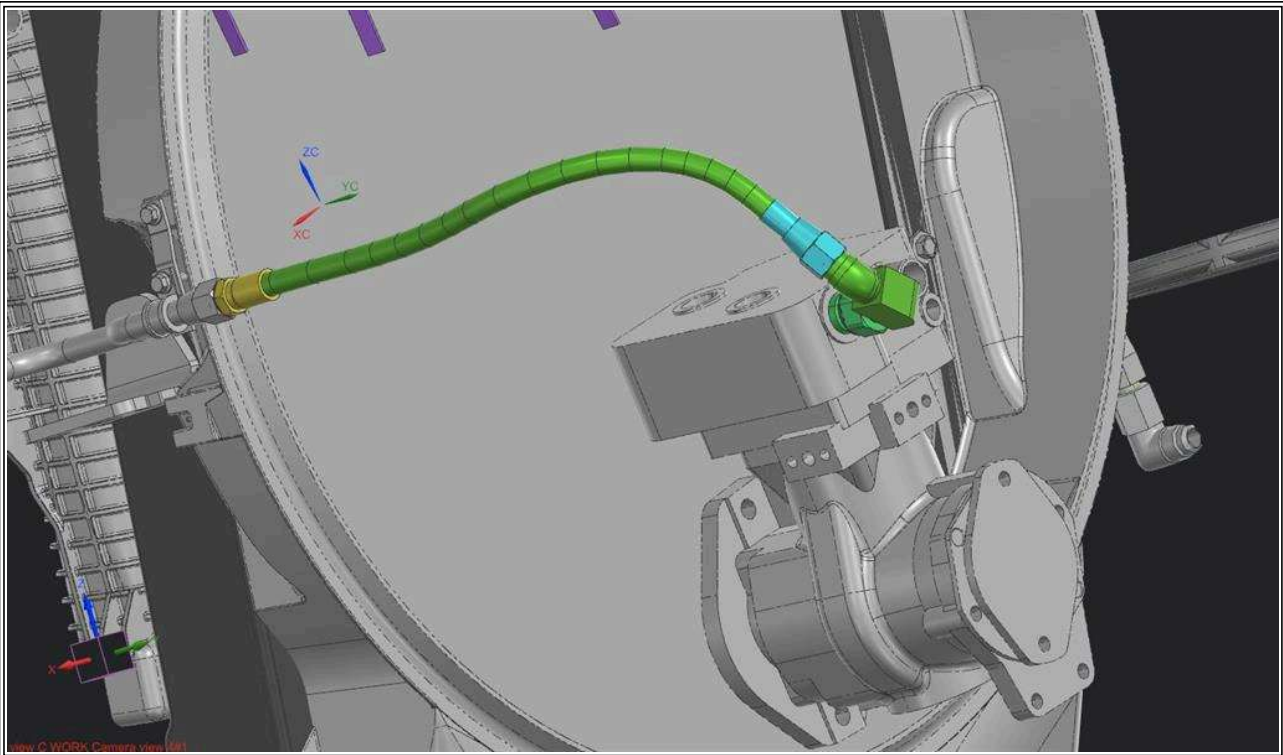

Figure 1
2. Install the elbows, fittings, and adapters, noted in the service parts section, onto the air compressor angled at roughly 45° counterclockwise from vertical, as shown in **Figure 1**